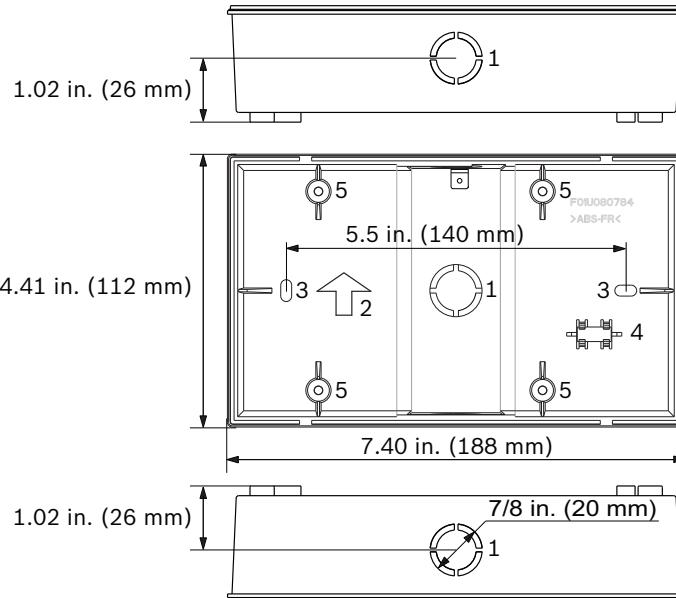

Figure 4.2 Back Box of the FMR-1000-RCMD Remote Command Center
1. The back box provides three knockouts for 1/2 in. diameter conduit connectors in the back, bottom and top side (refer to *Figure 4.2*, Item 1). To get a clean break, remove the knockout from the inside of the box.
2. Install the back box with the arrow pointing up (refer to *Figure 4.2*, Item 2).
3. Use the back box as a template to mark the location of the mounting holes (refer to *Figure 4.2*, Item 3). Provide an opening in the mounting surface for the wiring. Pre-start the screws. Do not secure the screws at this point.
4. The built-in bubble level allows you to level horizontally without extra tools when securing the base (refer to *Figure 4.2*, Item 4).
3. Bring the wiring through one of the knockouts in the annunciator's base (surface mounting) or the 3 gang electrical box (flush mounting). Refer to *Figure 4.2 on Page 8* for wire entrance location in the back box.
5. For surface mounting with back box: Secure the base. Use the bubble level to make sure that the back box is perfectly horizontal. Refer to *Figure 4.2 on Page 8*.